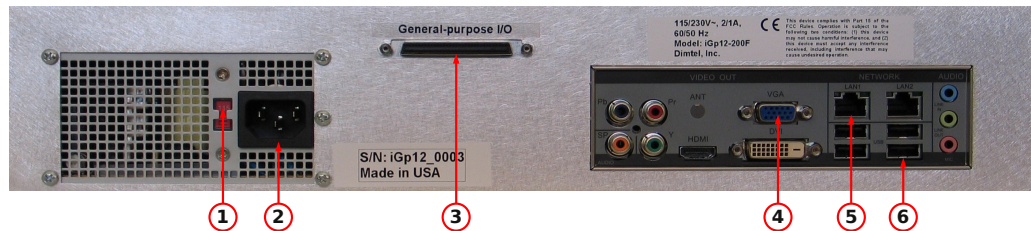

Figure 3: Rear panel features
WARNING: Before connecting power to the unit make sure the voltage selection switch (Fig. 3, item 1) is in the correct position (115 or 230 V).
1. Configure voltage selection switch (Fig. 3, item 1). Mains supply requirements for the iGp12-45F are listed in Table 10;
7. Connect a USB keyboard (Fig. 3, item 4);
8. Connect a video monitor (Fig. 3, item 5);
Setup program is included in the IOC for configuring the important features of the iGp12-45F. The program can be executed locally or remotely. For local execution one must first connect a keyboard (Fig. 3, item 4) and a video monitor (Fig. 3, item 5) to the system. For remote setup, use `ssh` after system bootup to establish connection. In both setup methods the user must login as `root` (initial password is supplied with the system). If the newly received iGp12-45F must be configured remotely (when, for example, a keyboard or a monitor is not available), such configuration can be performed using a dedicated network. Set up a network consisting of the iGp12-45F, a network hub or a switch, and a remote computer. The iGp12-45F is delivered with the following network configuration:
- Make sure no cable is connected to the general-purpose digital I/O port (Fig. 3, item 3);